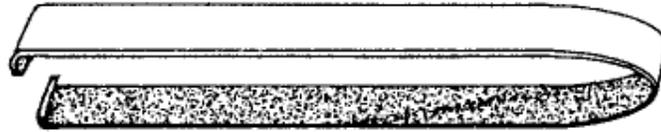
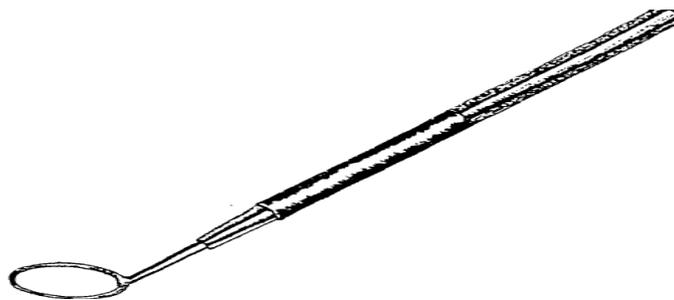

Figure 2.31: IC Puller
Figure 2.32: Inspection Mirror
Integrated Circuit (IC) Tools:For the fact that most of the electronic equipment covered in this book are modern devices which are intensively made up of ICs, there is need to discuss IC tools in this section. There are a lot of IC tools in electronic maintenance and repairs such as IC Installer/Puller (see Figure 2.31); Pin Stretcher which gently and safely straightens all the IC pins after pulling and so on; as well as IC Inspection Tools (see Figure 2.32). The electronic technician has three natural inspection tools which are his nose, eyes and ears. Other inspection tools are available to make better use of the natural senses particularly the sense of seeing and hearing.
For sight, the most basic inspection tool is a good source of light. This is often an adjustable bench lamp sometimes with the addition of a flashlight and some spares of batteries. At times, regardless of the amount of light, some places in the circuit under inspection may be inaccessible. In such situations, a mirror with handle (see Figure 2.32), such as dental inspection mirror can be of great help. It can be inserted into areas that are normally not discernable and is particularly helpful when inspecting the back of something that is hidden.